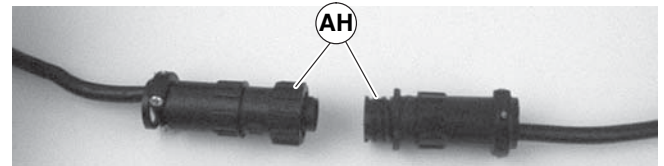

Figure 18
3. For DC variable speed motor, unplug motor cord at disconnect (Figure 18, item AH).